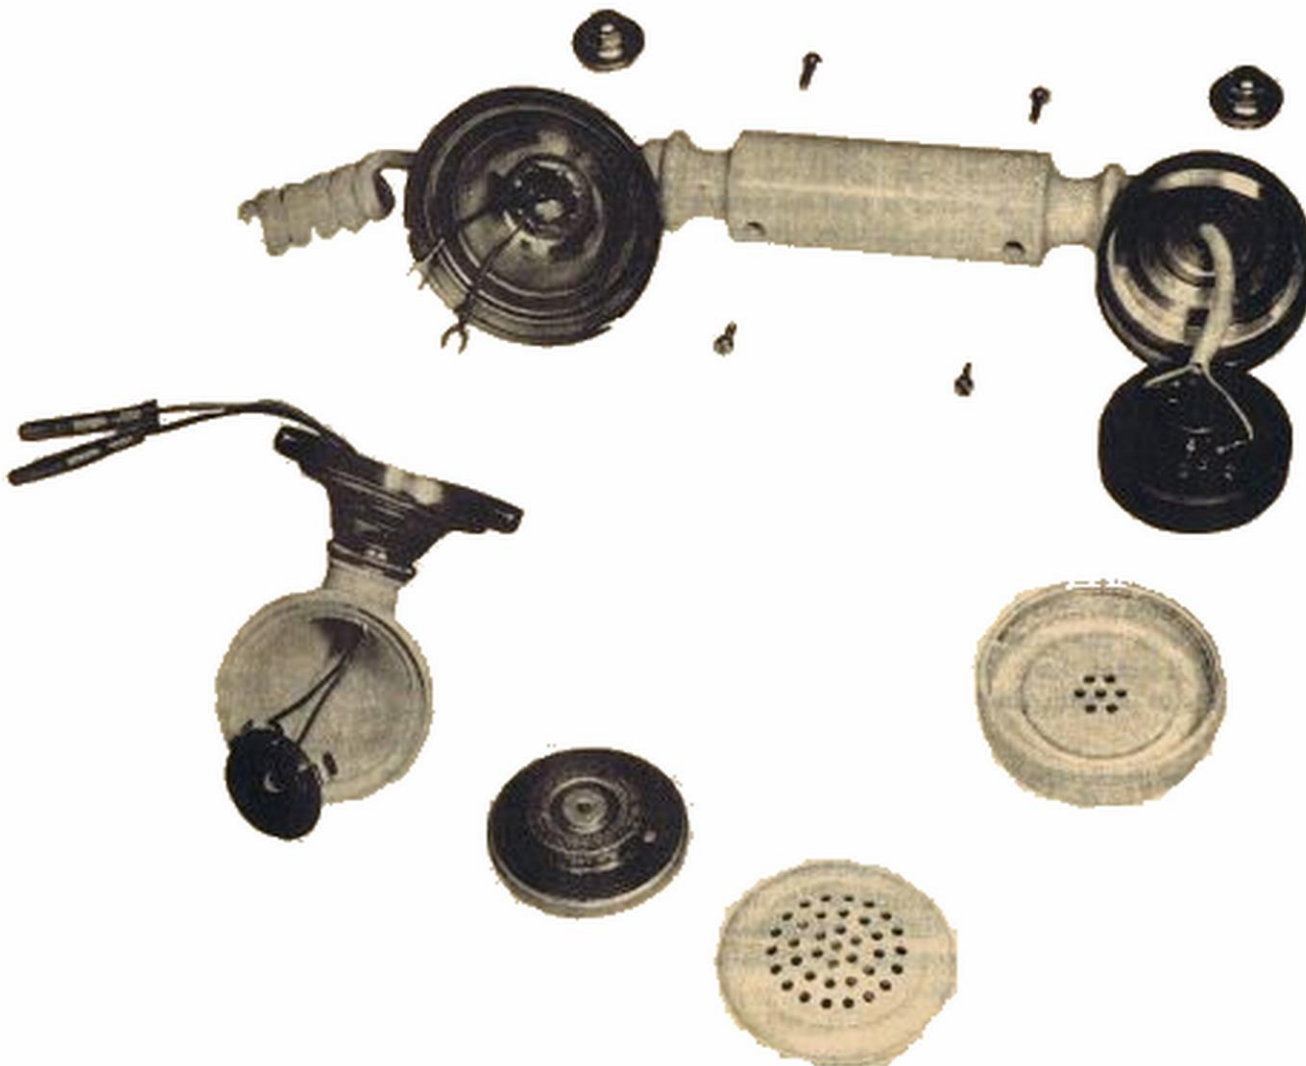

Figure 4. Installation of LM-625 Kit Components in Handset of Decorator Telephone Set.
3.12 Using a thin-bladed screw driver, loosen the three screws which fasten together the two sections of what, in a genuine antique set, would be the transmitter housing. Rotate the outer section counter-clockwise a few degrees to the end of the retaining slots and pull it free. The white styrene simulated mouthpiece, which in a genuine antique set would have an open outer end of a slightly smaller diameter, serves as the transmitter cavity in the decorator reproduction and is provided with a threaded, perforated transmitter cap. The simulated transmitter housing will be used in the decorator set to contain spliced connections between the handset cord conductors and extender leads required to reach the transmitter unit (see Figure 4).